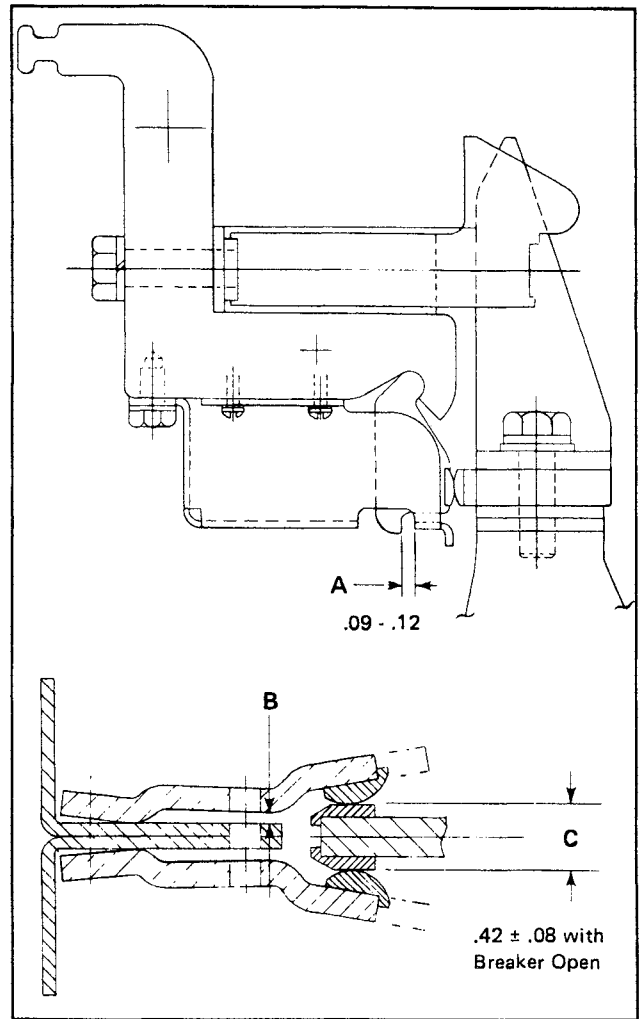

Fig. 31 Contact Setting: CMD-1875 Network Protector
6. Referring to Fig. 31, check dimension A on the CMD-1875 amp units. This should be adjusted between 0.09 minimum and 0.12 inch maximum using setting
Dimension B (Fig. 31) must be a minimum of 0.020 inch between both stationary contacts and the center section. If this dimension cannot be maintained, the arcing contacts, both moving and stationary, must be replaced.
When the breaker is open, dimension C (Fig. 31) should be  $0.42 \pm .08$  inch.